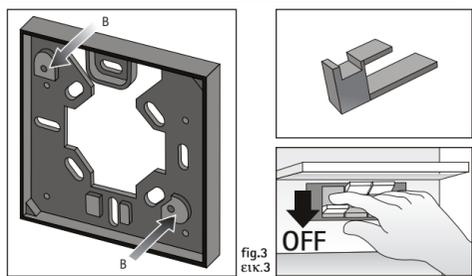

fig.3
- Socle adaptateur = cod. 004095 (fig.3)
- Untersatz = cod. 004095 (Abb.3)
- Accessoire onderstel = code 004095 (fig.3)